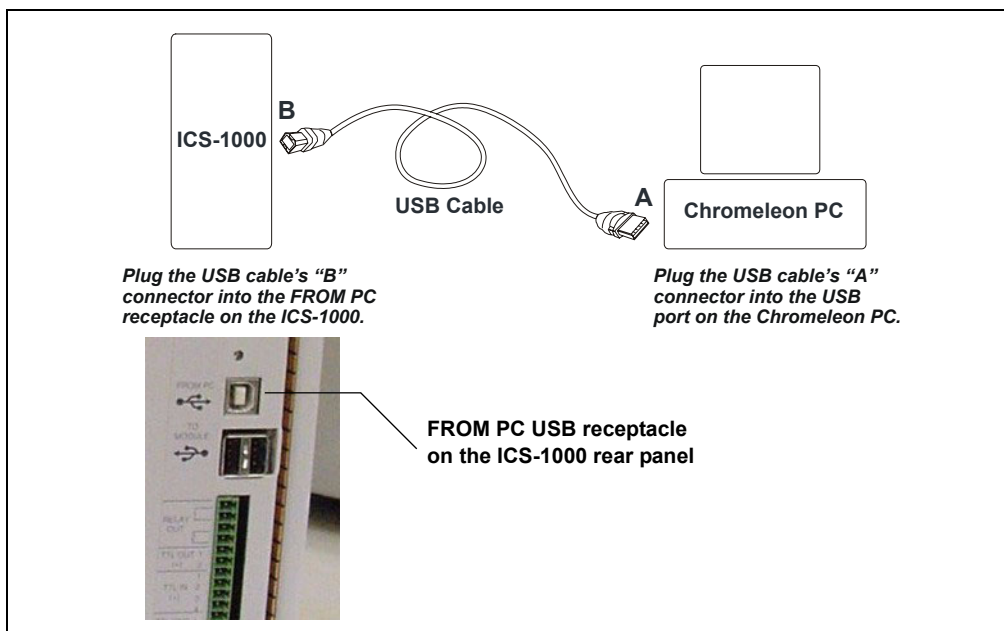

Figure 7. Example Connections: One ICS-1000 Connected to the Computer
2. Plug the cable's "A" connector into a USB port on the Chromeleon PC and plug the cable's "B" connector into the USB receptacle (labeled **FROM PC**) on the ICS-1000 rear panel (see Figure 7).